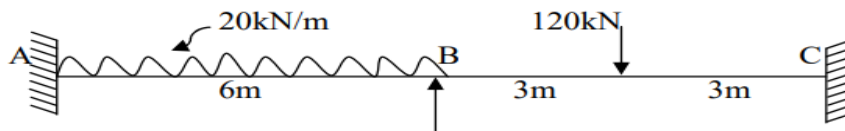

Fig. Q9
9. Analyse the continuous beam shown in Fig. Q9 by Stiffness matrix method. Draw BMD 20 (3 : 5 : 2.2.1)